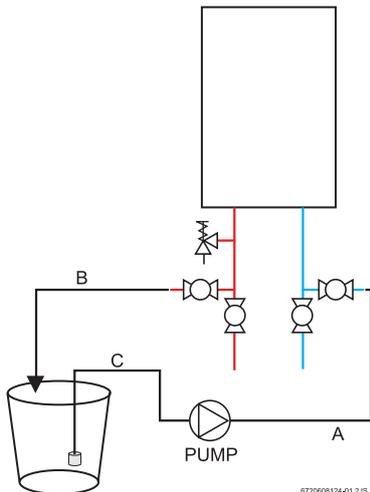

Fig. 57
5. Connect a line (A) from the outlet of the circulating pump (installer supplied) to the inlet water fitting on the water heater (see Fig. 57.)
6. Using another line (B), connect to the water outlet fitting on the water heater. Route the other end of this line into a descaling reservoir.
7. Using a 3rd line (C) from the descaling reservoir, connect to the inlet side of circulating pump. Install a filter on the end of the line in the descaling reservoir.